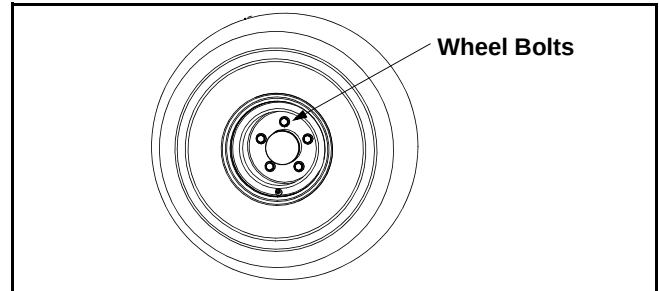

Figure 17
- Loosen but do not remove the five wheel bolts from the axle hub. See Figure 17.